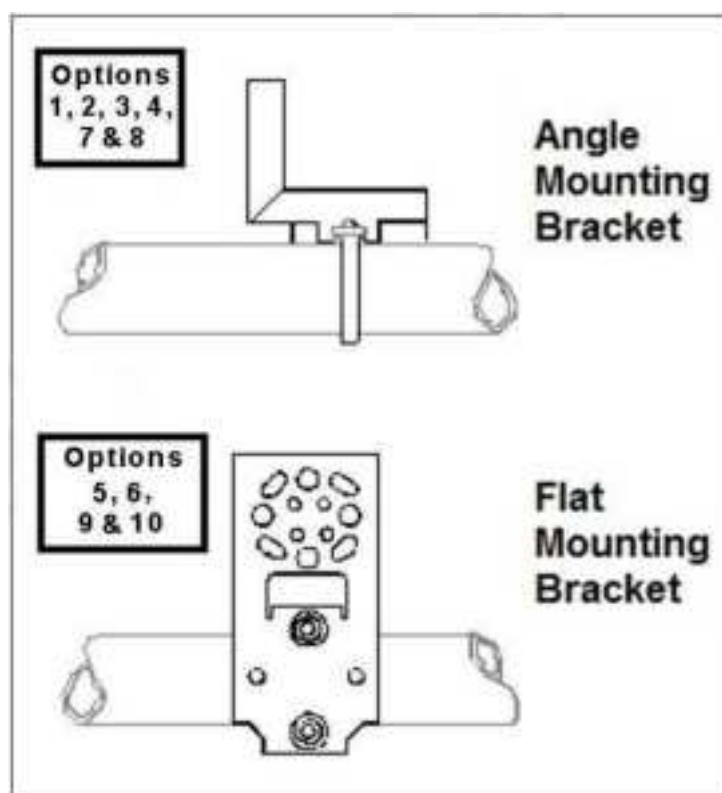

Figure 28 – ST 700 Standard Transmitter - Angle and Flat Bracket Parts
16. Use a torque wrench to gradually tighten nuts to torque rating in sequence shown in Figure 28. Tighten head bolts in stages of 1/3 full torque, 2/3 full torque, and then full torque.